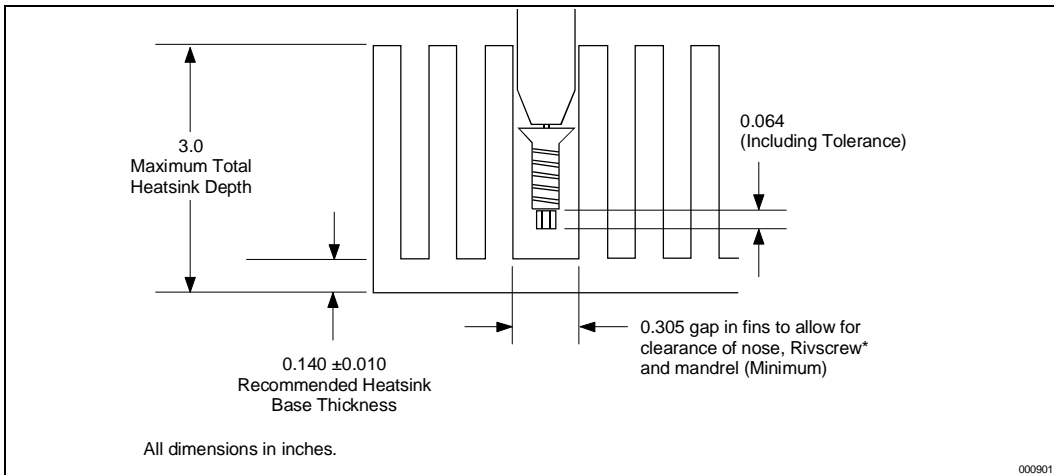
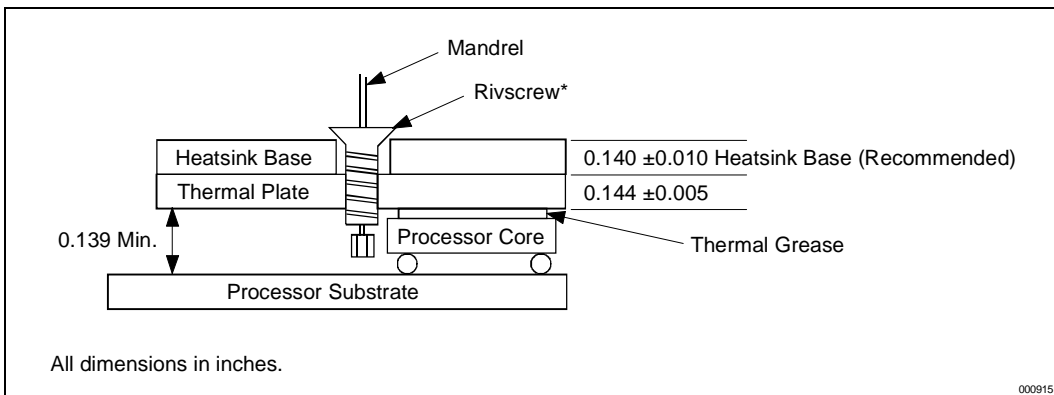
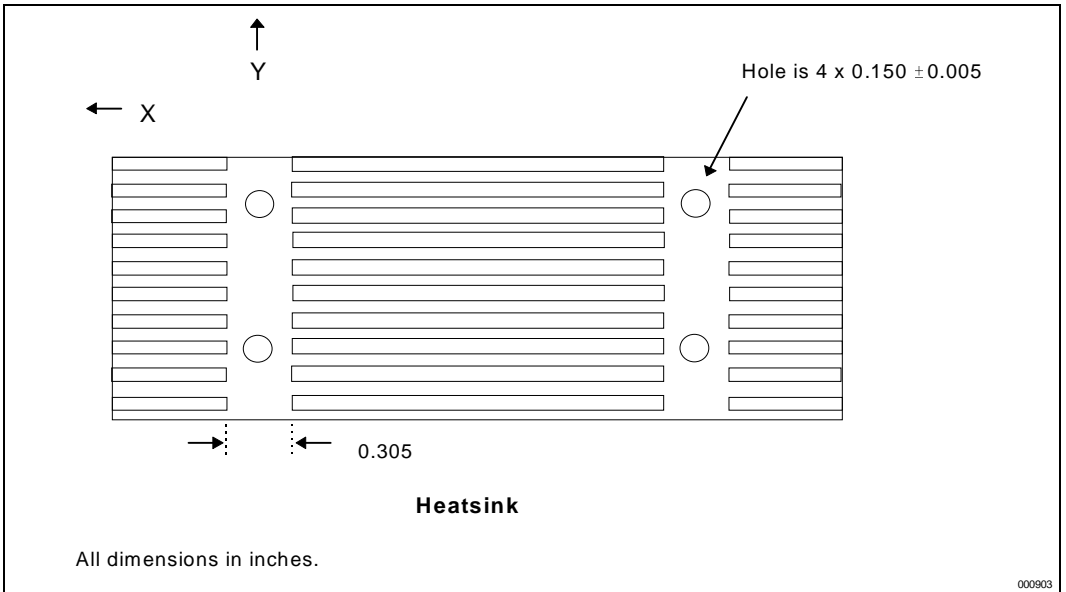

Figure 25. Heatsink Recommendations and Guidelines for Use with Rivscrews*
Figure 26. Heatsink Rivscrew* and Thermal Plate Recommendations and Guidelines
Figure 27. General Rivscrew* Heatsink Mechanical Recommendations
0.139". For use of the Advel Rivscrew (part number 1712-3510), the heatsink base thickness must be 0.140 ± 0.010 ". See Figure 25, Figure 26 and Figure 27 for details of heatsink requirements for use with Rivscrews.